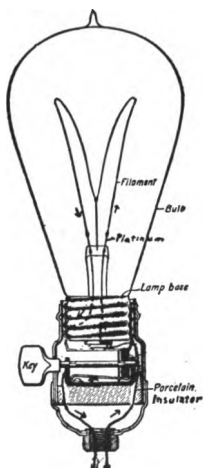

FIG. 208.—INCANDESCENT ELECTRIC LAMP
**232. Incandescent Electric Light.** This light (Fig. 208) consists of a glass globe from which the air has been removed and inside of which there is a filament of carbon, tungsten, or tantalum; the two ends of this filament are connected to the outside wires through pieces of platinum sealed into the glass walls of the bulb (see Section 10). When the electric current is turned on, the filament becomes heated to incandescence. The size and length of the filament affect the current strength, and therefore the amount of light obtained. We thus get lights of different brightness. The air must be removed from the bulb, because the filament would oxidize and soon be destroyed if any oxygen were present. The two platinum wire ends are connected to a brass disc and ring respectively. These are insulated from each other. The whole lamp screws into a socket in which there is